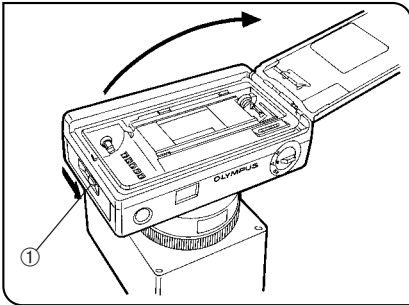

Fig. 10
1. Press the back cover release lever ① on the camera back in the direction of the arrow and open the back cover. (Fig. 10)